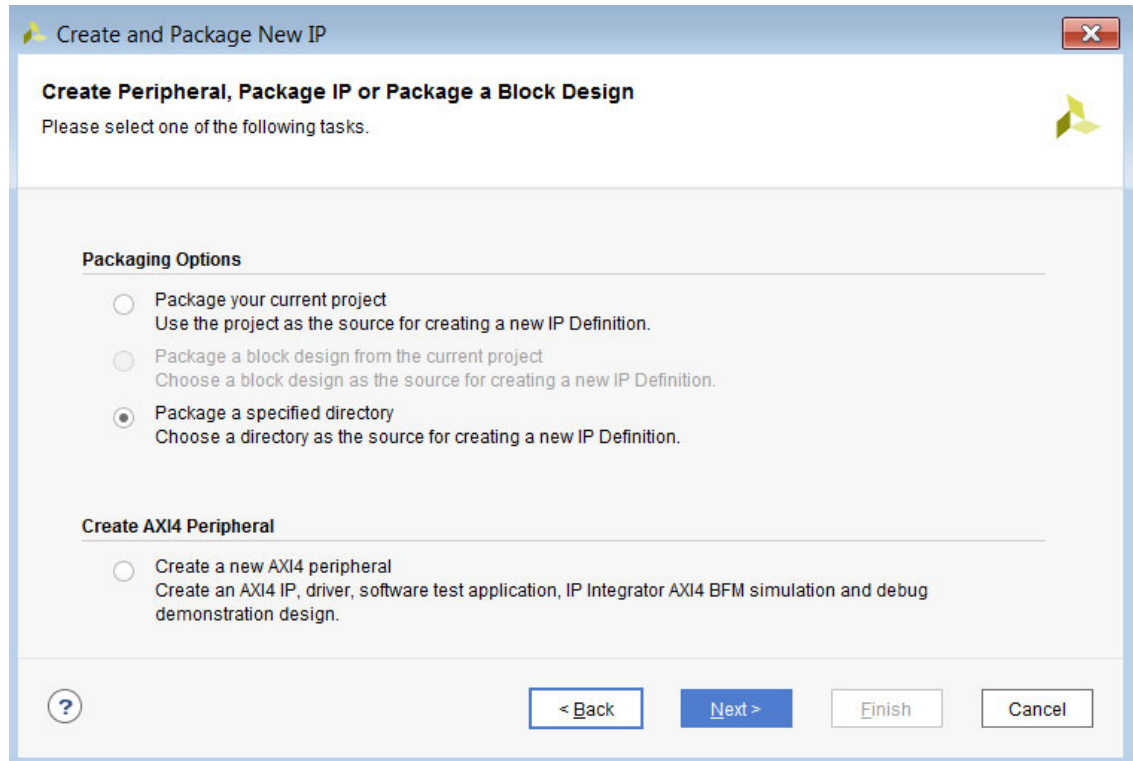

Figure 3-14: Create and Package New IP Wizard: Package a Specified Directory
1. Select the **Package a Specified Directory** option to open the associated wizard, as shown in Figure 3-14.